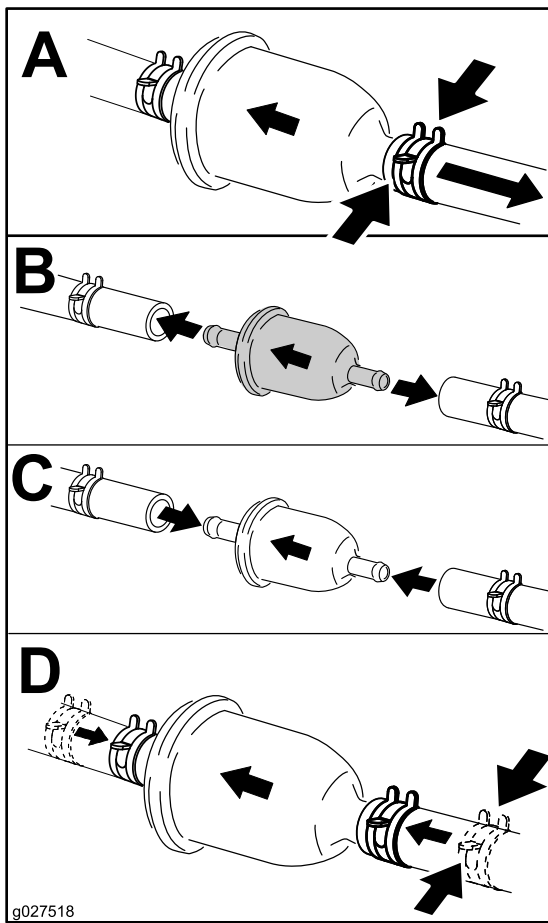

Figure 52
4. Replace the fuel filter as shown in Figure 52.